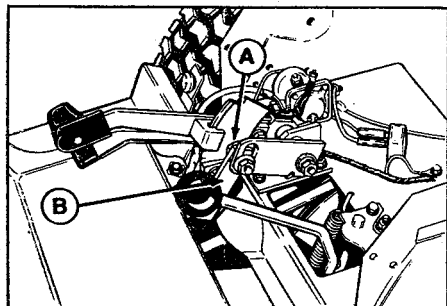

Figure 25. Speed Control Lever
4. Loosen the shoulder bolt (A, figure 25) so it is free to slide in the slot.
12. Raise seat deck. Place your finger on the bar (B, figure 25) and press down until it stops.